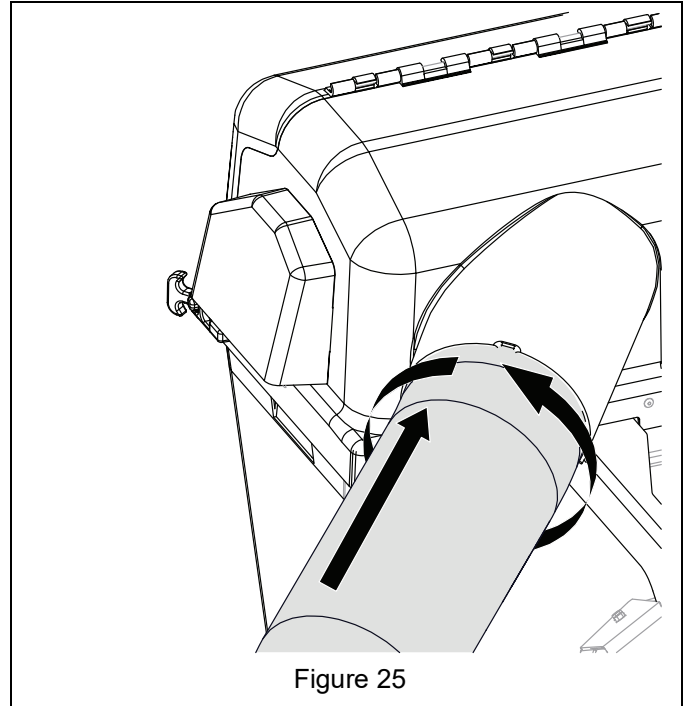

Figure 25
10. Rotate bagger hose counter-clockwise into rear intake until hose end is visible from inside bagger hood. See Figure 25.